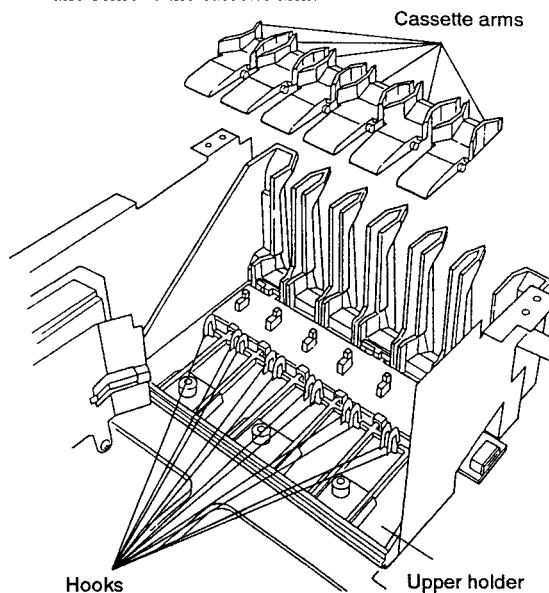

Fig. 2-10
2.8 REMOVAL OF UPPER UNIT (Refer to Fig 2-10 and 11.)